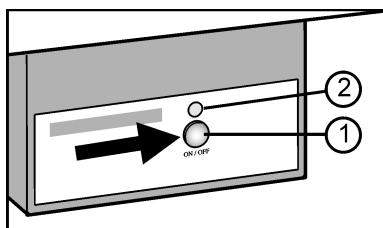

Fig. 13
- ▶ Press the On/Off button Fig. 13 (1) so that the LED Fig. 13 (2) shines.